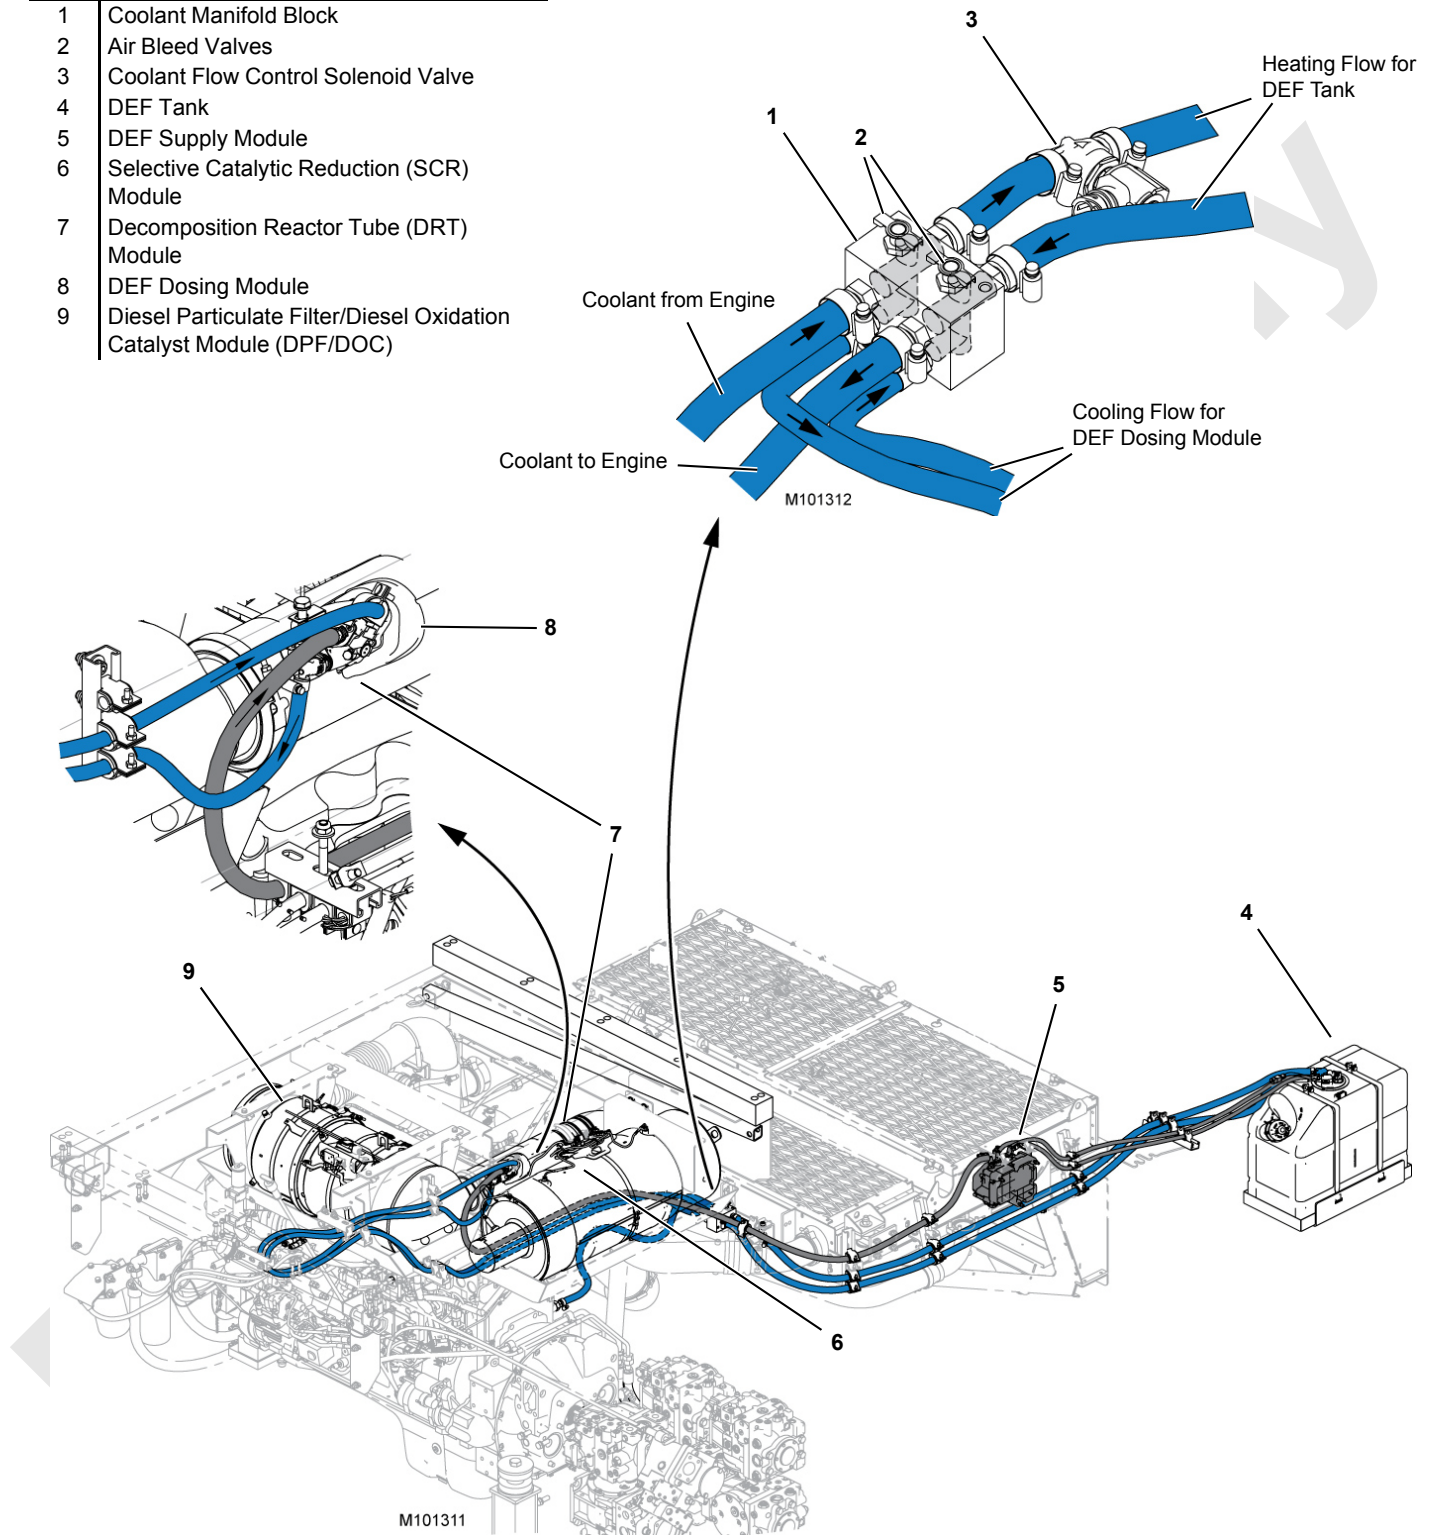

FIGURE 7-12
See Figure 7-12 for the following procedures.
Warm coolant from the engine is routed to a manifold (1) where it splits into two paths: one delivers coolant to the heat exchanger in the DEF tank (4) to keep the DEF warm or to thaw, and the other delivers coolant to the dosing module (8) to keep it from overheating. See Figure 7-12 for hose routing and coolant flow direction.
The DEF supply module (5, Figure 7-12) is an electronically operated pump and metering system controlled by the ECM. The module pumps DEF to the dosing module which is mounted on the DRT.